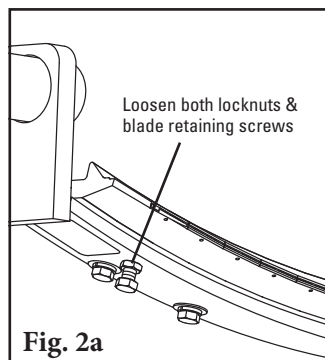

Fig. 2a
- a. Loosen both locknuts on the blade retaining screws. Turn the blade retaining screws out 8 turns (Fig. 2a).